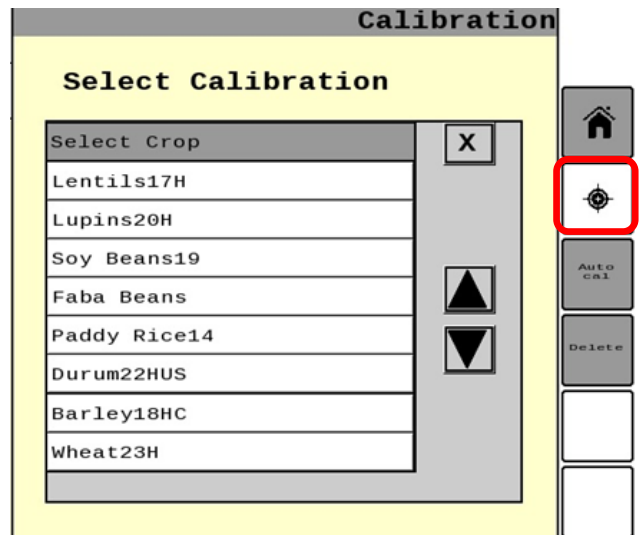

Figure 5.7 CropScan Virtual Terminal Calibration screen
i. Select the **Calibration** button as shown in figure 5.7.